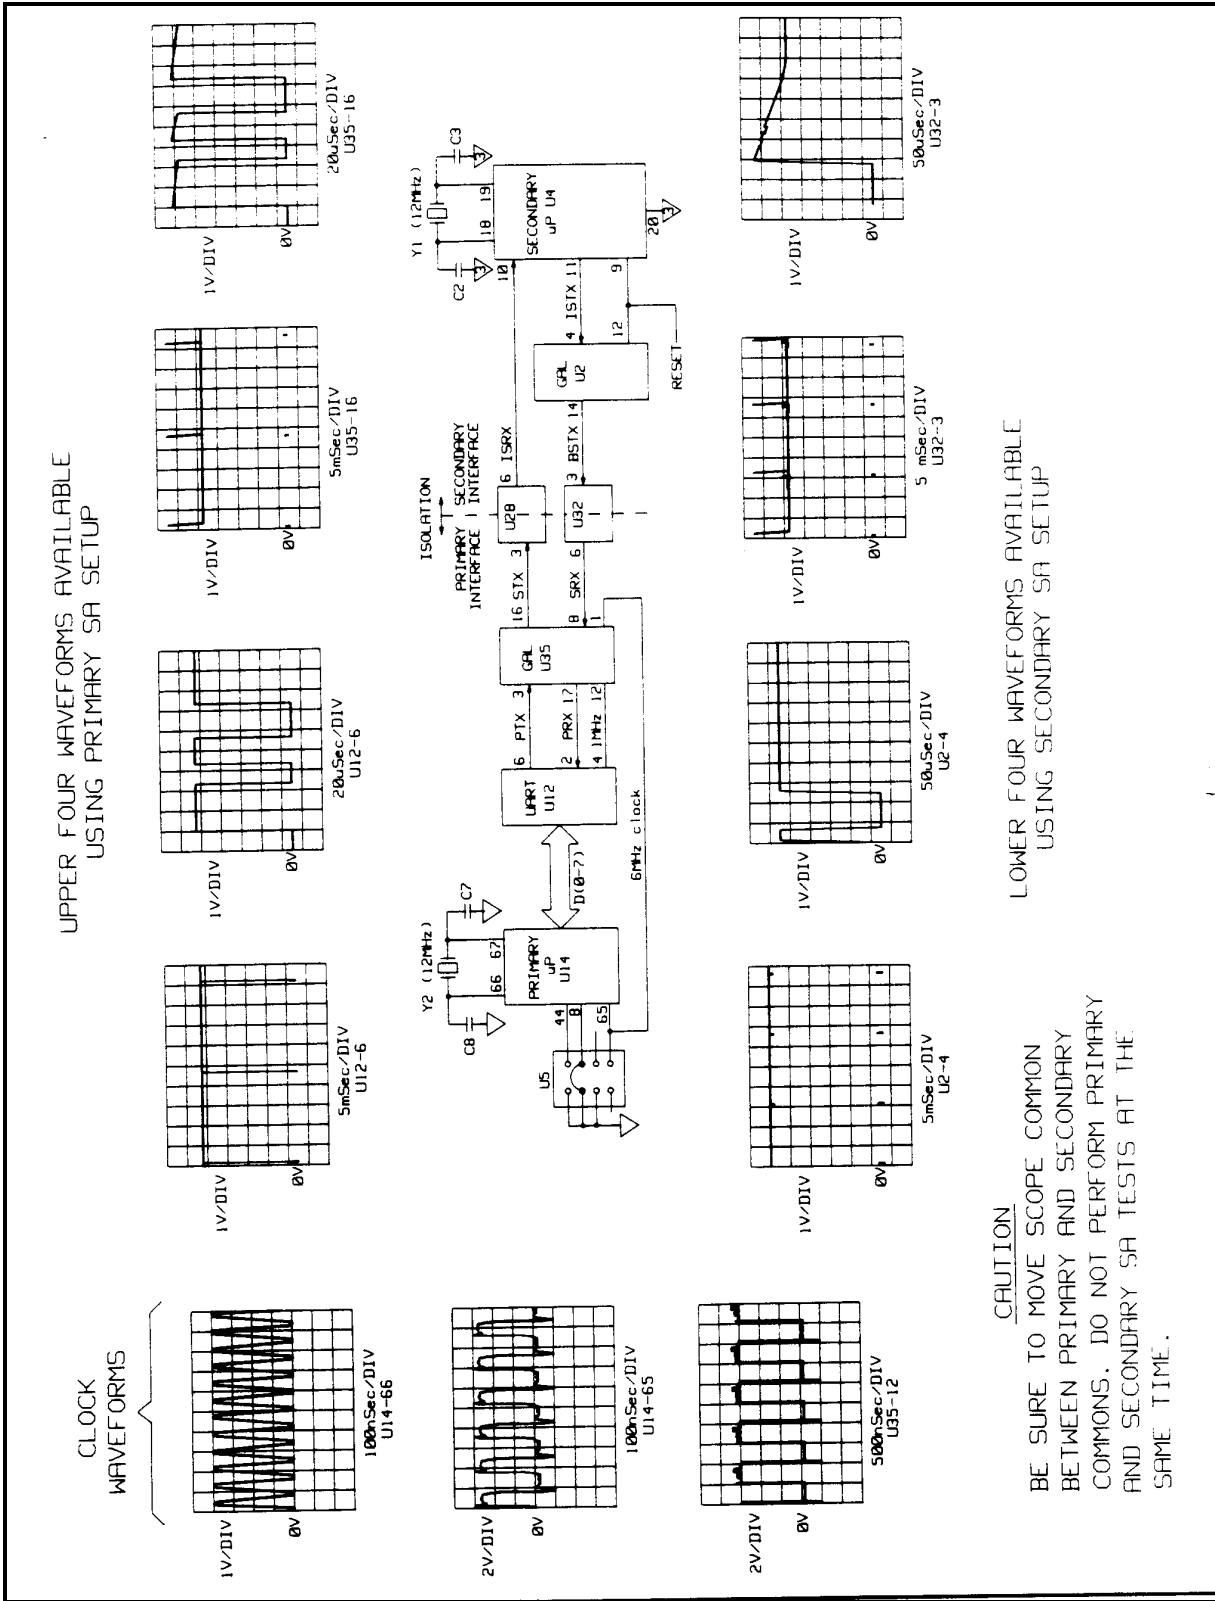

Figure 3-3. Clock and Primary SA Waveforms
Primary interface troubleshooting checks for the presence of bias voltages, clock signals (see Figure 3-3), and activity on the data lines. Primary signature analysis may be used to further troubleshoot these circuits, but since the address and data lines go to so many IC's, it may not be cost-effective to narrow an incorrect signature to a specific chip. HP-IB board replacement may be the most cost-effective solution.
**Clock Signals** (see clock waveforms in Figure 3-3)
When the unit is in SA mode, check for the waveforms shown in Figure 3-3. Refer to Table 3-4 for the primary SA signatures. Return the J5 jumper to its normal position when the primary signature analysis is complete.